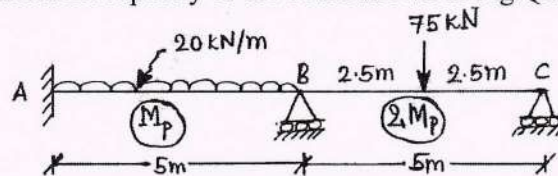

Fig.Q2(b)
- b. Determine the plastic moment capacity of the beam shown in Fig.Q2(b).